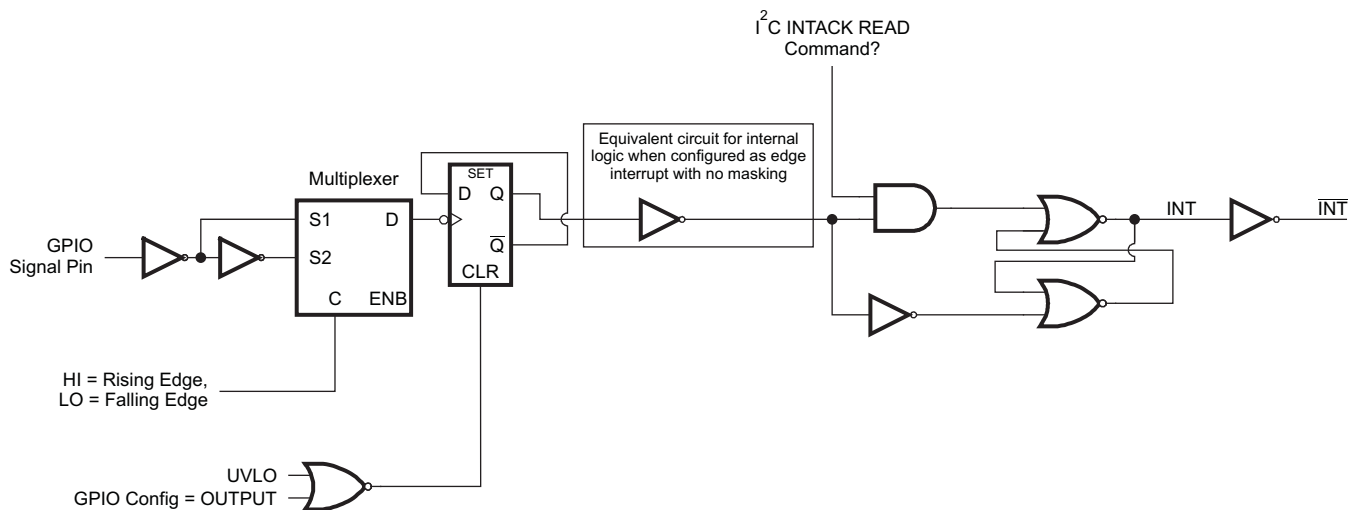

Figure 47. GPIO 1 or GPIO2 Configured as an Interrupt Request Input
See Figure 47 for a description of the logic used for GPIO1 and GPIO2 inputs when configured for edge-triggered interrupt generation. The signal from the GPIO pin input is double-latched before being sent to the interrupt controller logic. The inversion of the Q output from the first flip-flop must be HI to allow the output latch to be cleared when a READ command occurs. On the initial edge of the GPIO signal, the Q output of the flip-flop is set (HI). The INT line is asserted (LO) after the initial selected edge from the GPIO pin. On the next falling (or rising) edge of the GPIO pin, the interrupt can again be cleared (which allows the INT pin to go back high). The INT signal is cleared (set back HI) after an I²C READ operation is performed.